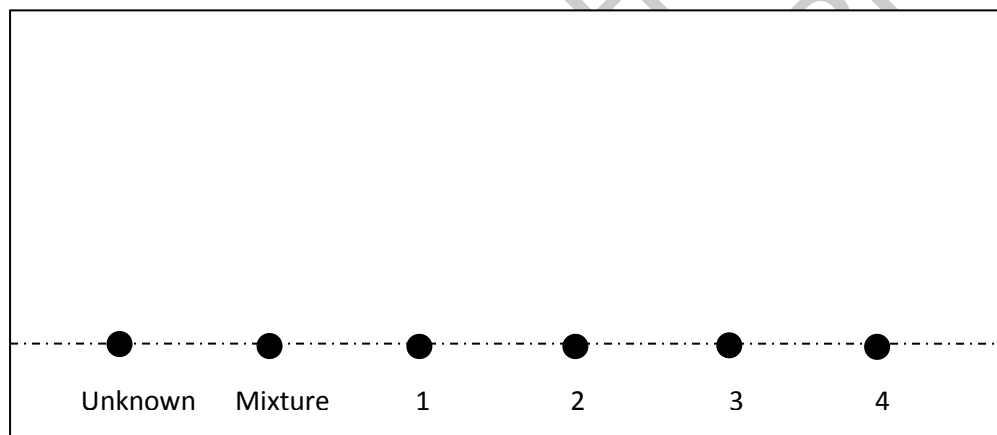

Figure 1. Filter paper with standard and unknown mixture spots before separation.
1. Obtain a piece of filter paper approximately 10 x 20 cm and several ink pens. Draw a line in pencil approximately 1 cm from the bottom end of the paper, as indicated by the dotted line in the diagram in Figure 1.
2. Obtain samples of the standard solutions of transition metal cations, and the cation mixture assigned by your instructor. Place a spot of each of the individual cation solutions on the penciled line on your paper, as shown in Figure 1. In addition, create a "Mixture" spot, on which you place a small drop of each of the four metal cation solutions. Finally, create a small spot containing the unknown solution. Write the identity of each spot (using either chemical symbols or numbers) below the spots (in pencil), as well as for your mixture and unknown spots. If you use numbers, record the numerical identity of each cation spot on your Data Sheet. Try to make the spots small enough so that they do not spread out too much during the separation. The resulting spots should be about this big: ●. Your finished paper should look like this: